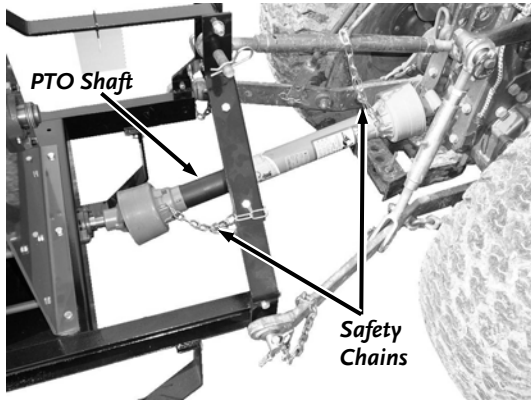

Figure 25
6. Secure the PTO Shaft Safety Chains to stationary parts of the Chipper Frame and Tractor to stop the Guard from turning (**Figure 25**).